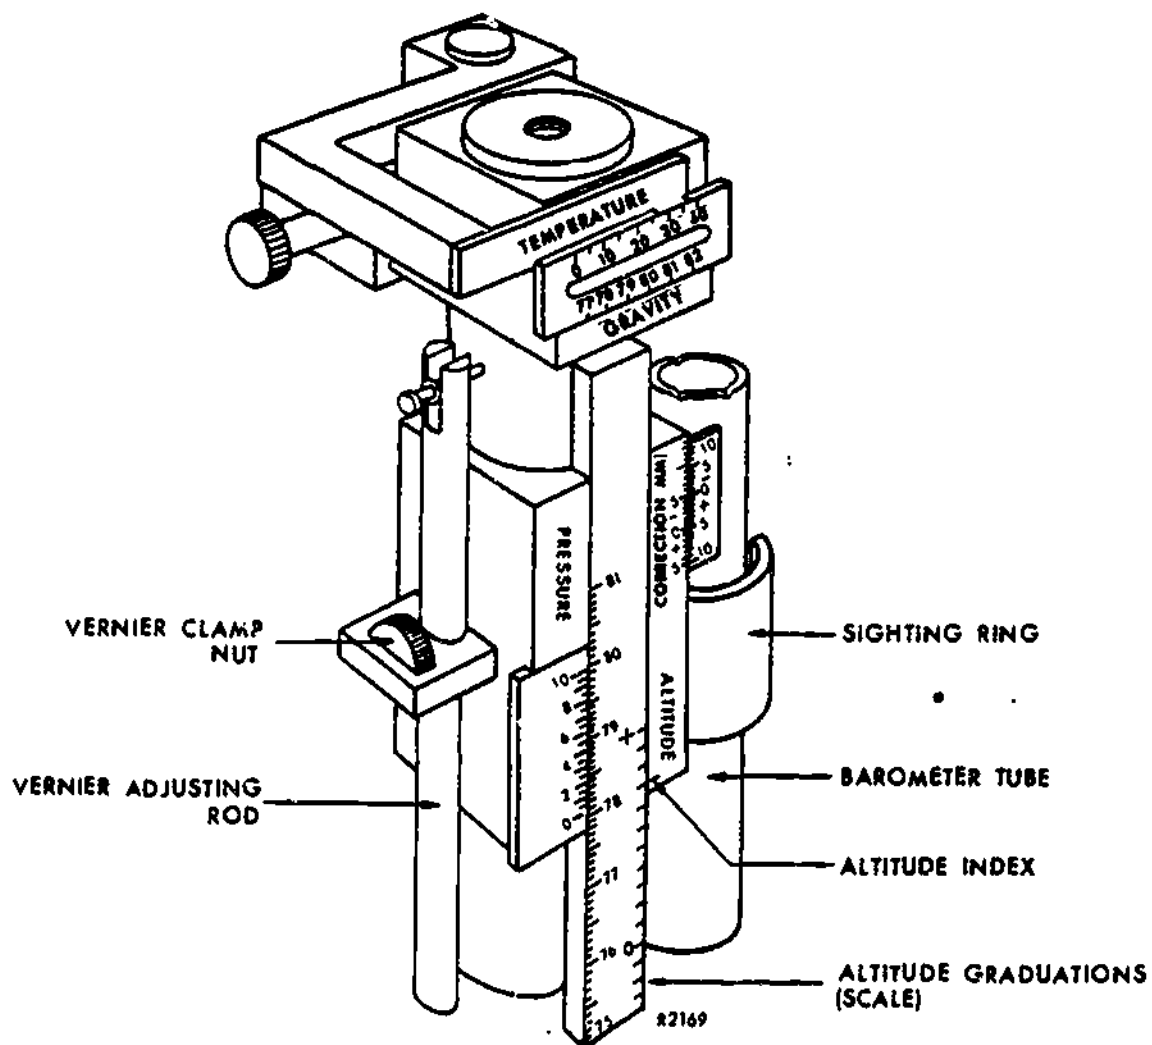

Figure 2.
a. The altitude scale is read against the altitude index. (Refer to figures 2 and 3.) Altitude index reference mark is located in line and to the left of the bottom of the sighting ring.
- (1) 100 foot increments from -1,000' to +10,000'.
- (2) 500 foot increments from +10,000' to +50,000'.
- (3) 1,000 foot increments from +50,000' to +80,000'.
c. Use figures 2 and 3 to locate the altitude scale and altitude index marker on the A-1 mercury barometer.
4. Vernier clamp nut and sighting ring. (Figure 2 or 3)